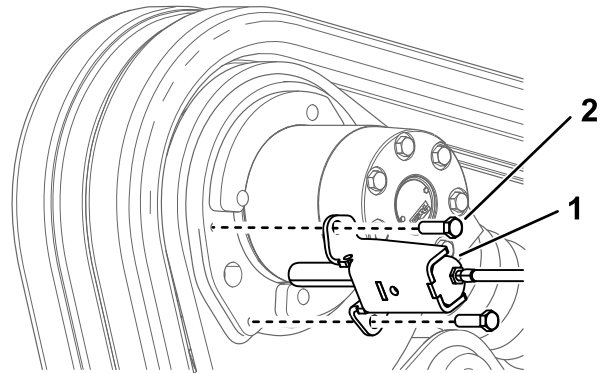

Figure 10
- Secure the brake mount to the motor mount, with the open side facing toward the track motor, using the 2 bolts you removed previously (Figure 10).